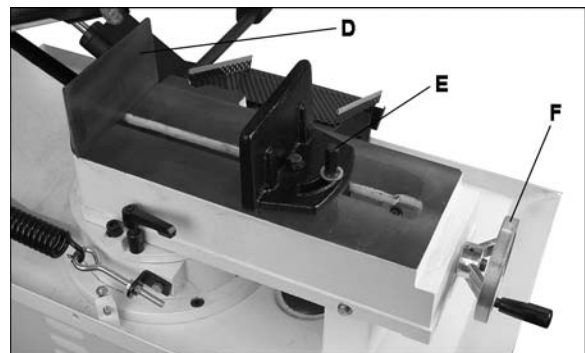

Figure 16
1. Make sure fixed jaw (D, Figure 16) has been squared (section 9.2, *Squaring blade to vise*).
3. Loosen hexagonal stud (E) on floating jaw.
4. Rotate handwheel (F) slightly counter-clockwise, then push floating jaw by hand until it contacts workpiece and adjusts to its shape.
5. Tighten stud (E).